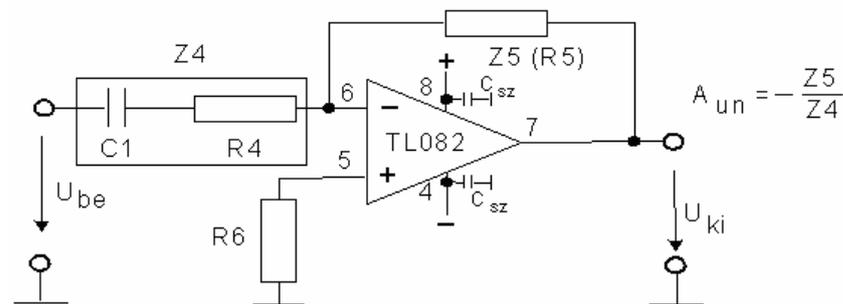

Figure 4-3. Basic inverting amplifier circuit with AC coupling on input
If AC coupling is applied (See C1 in fig 4-3), for the gain and the lower cut-off frequency we obtain:
- 1.3. Student B: using the breadboard and the parts obtained from the tutor, build the basic inverting amplifier circuit (See fig. 4-3.). The power supply should be ± 15 V. Use AC coupling on the input.